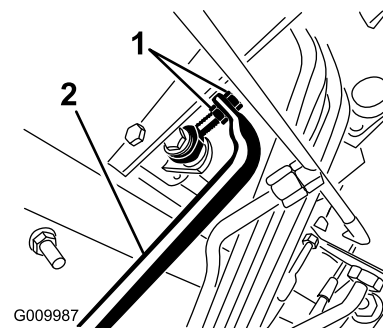

Figure 72
5. Adjust the jam nuts on the pump rod end to move the pump control tube forward to eliminate forward creep or rearward to eliminate rearward creep (Figure 72).